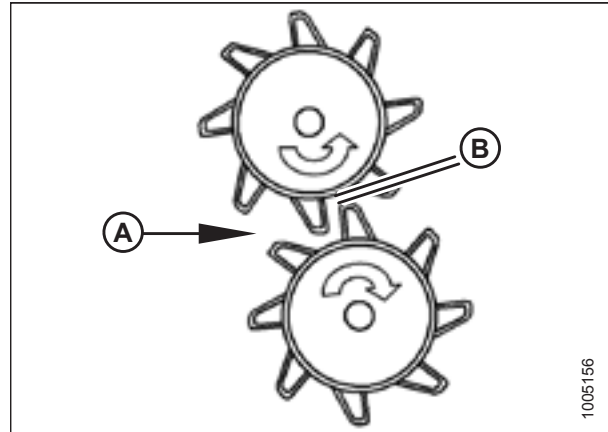

Figure 3.69: Roll Gap
- Refer to Figure 3.69, page 48: Confirm the roll gap (B) is 20 mm (3/4 in.).